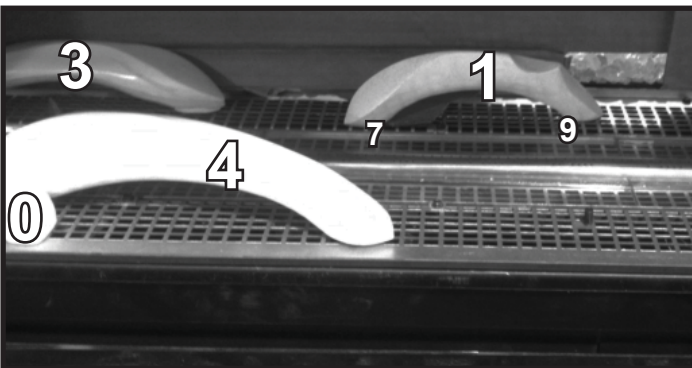

Figure 6. (SRV2310-751)
7. **(SRV2310-751):** Install Log #1 onto shoulder screws #7 and #9 by aligning the log placement holes with the shoulder screws. See Figure 6.